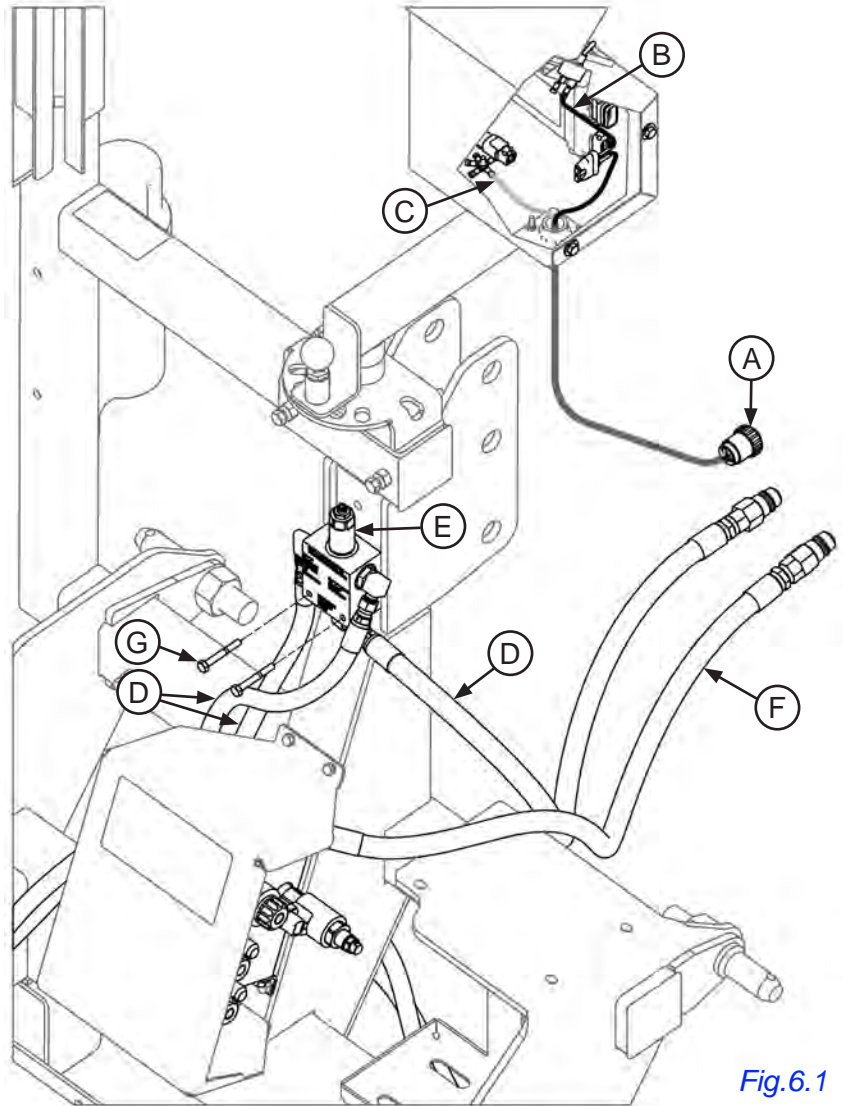

Fig.6.1
8. Route provided power pack wiring harness into control panel through the bottom cable strain relief connector, connecting black wire ring terminal (with fuse holder) to toggle switch and grounding white wire to the control panel box. See Fig.6.1.